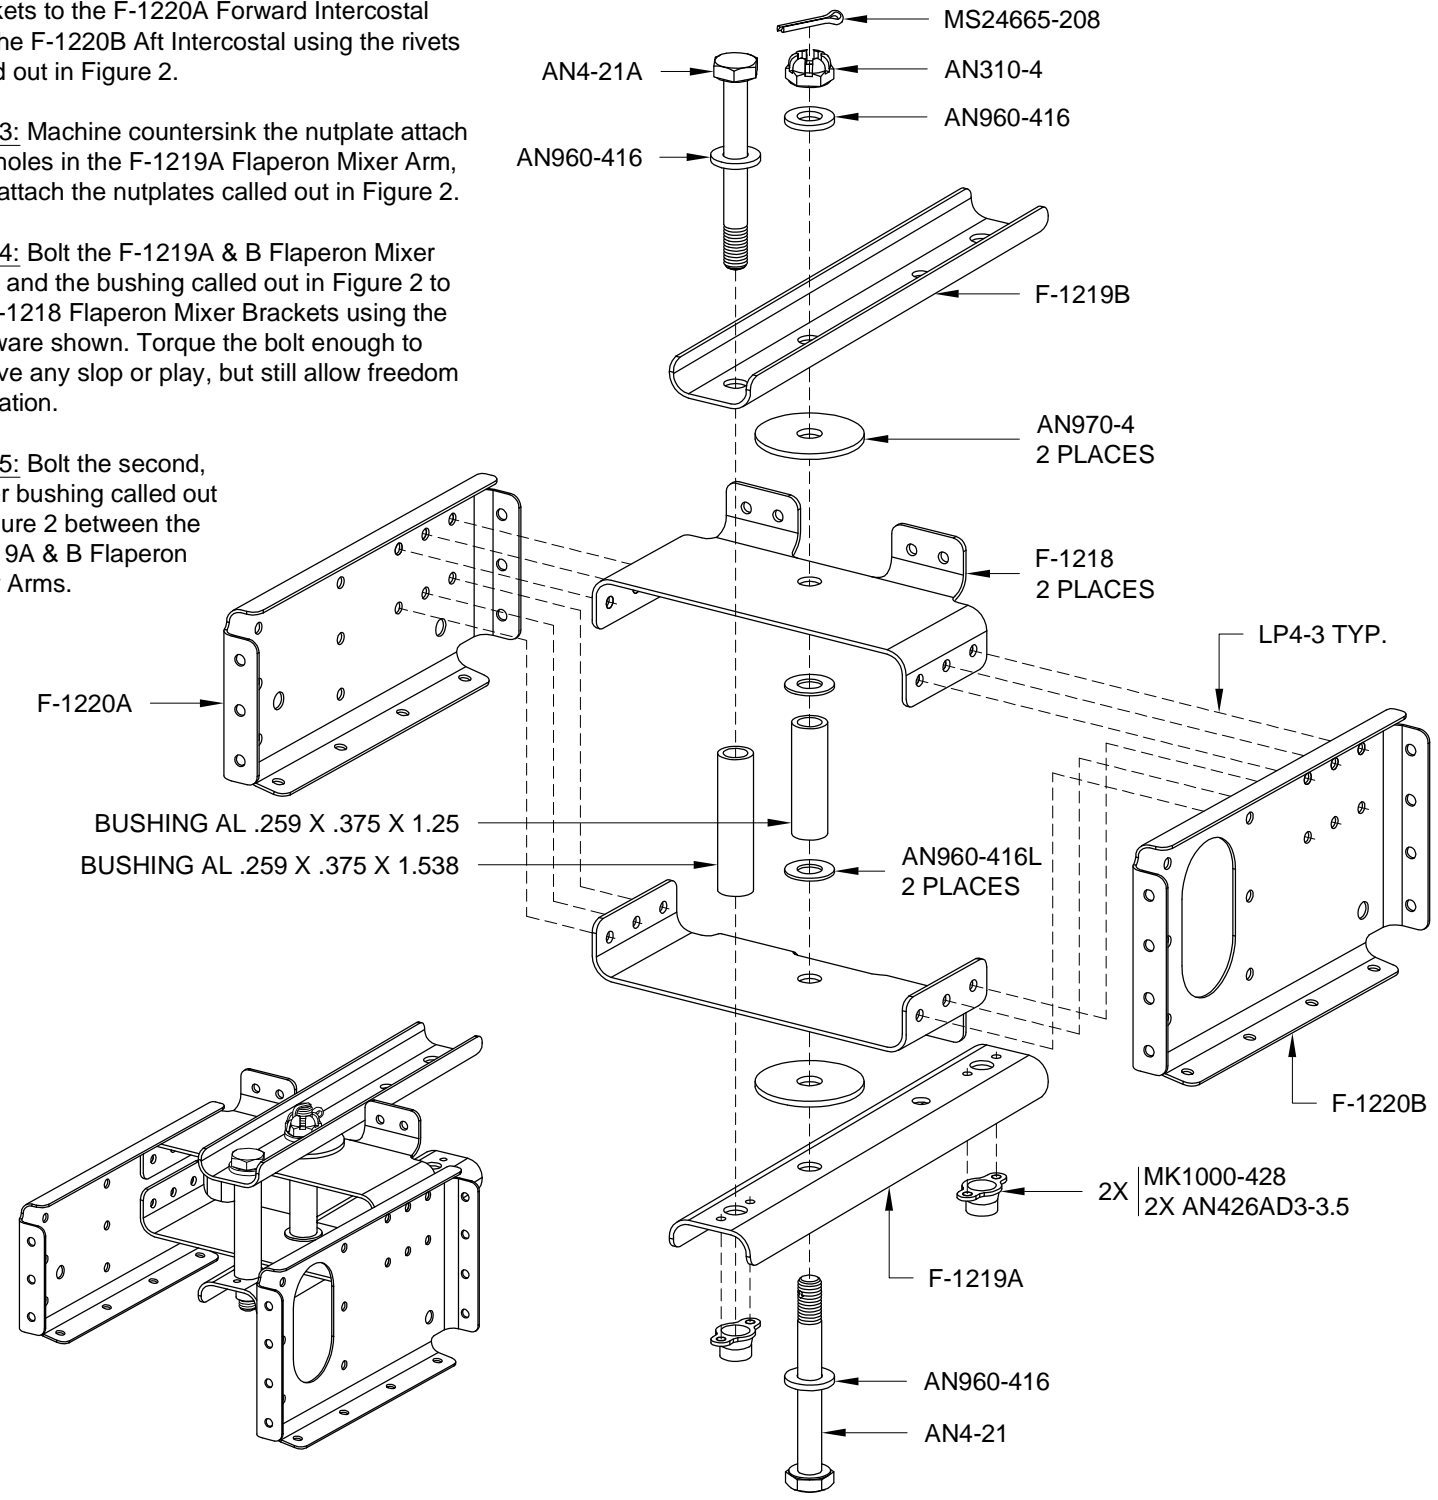

FIGURE 2: FLAPERON MIXER ARM ASSEMBLY
Step 2: Rivet the two F-1218 Flaperon Mixer Brackets to the F-1220A Forward Intercostal and the F-1220B Aft Intercostal using the rivets called out in Figure 2.
Step 3: Machine countersink the nutplate attach rivet holes in the F-1219A Flaperon Mixer Arm, then attach the nutplates called out in Figure 2.
Step 4: Bolt the F-1219A & B Flaperon Mixer Arms and the bushing called out in Figure 2 to the F-1218 Flaperon Mixer Brackets using the hardware shown. Torque the bolt enough to remove any slop or play, but still allow freedom of rotation.
Step 5: Bolt the second, longer bushing called out in Figure 2 between the F-1219A & B Flaperon Mixer Arms.